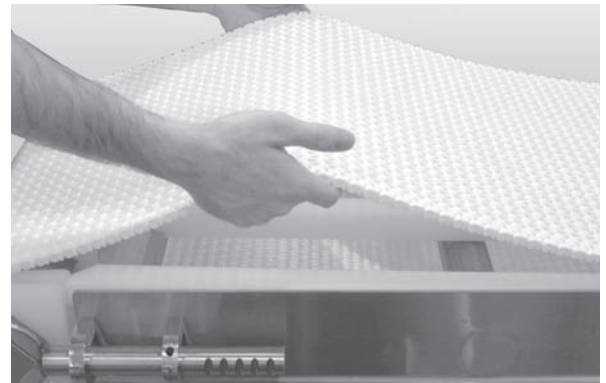

Figure 27
3. If conveyor does not have belt lifters, lift up on belt manually (Figure 27).